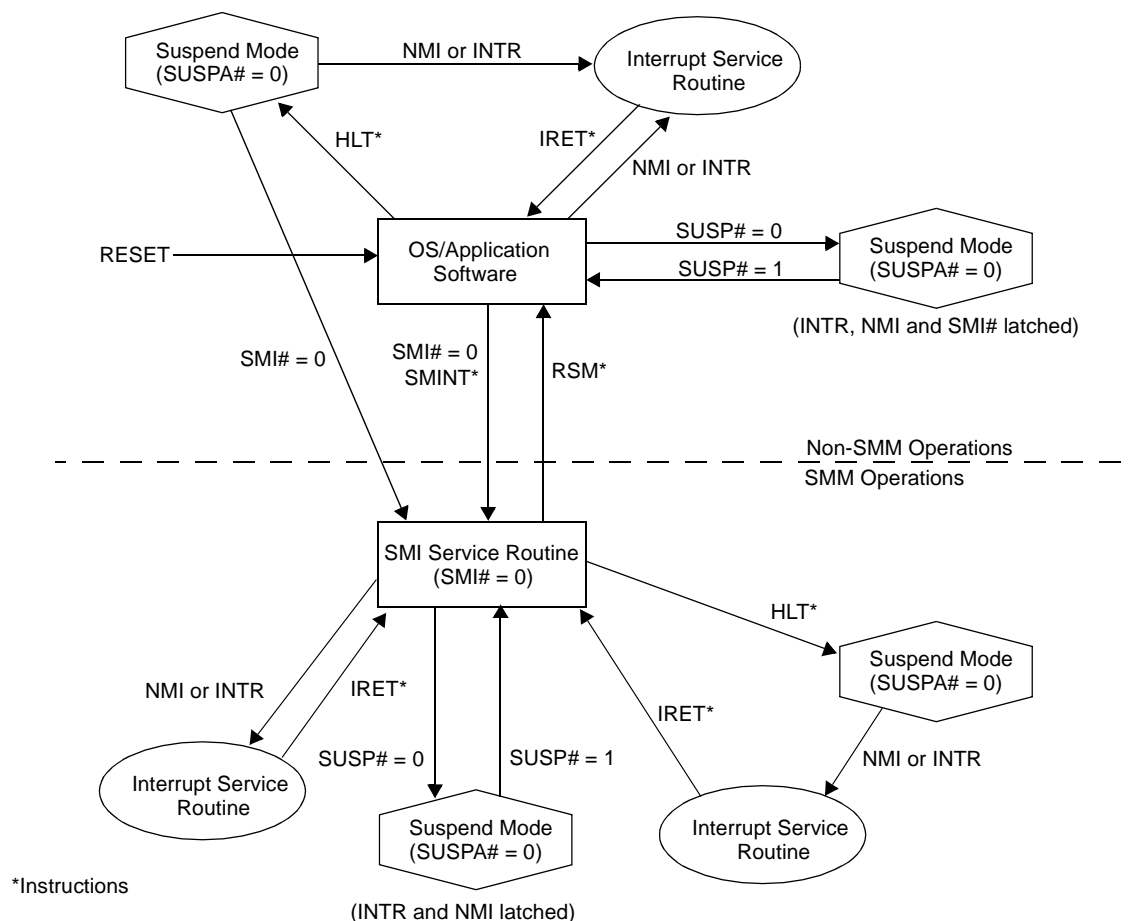

Figure 3-12. SMM and Suspend Mode State Diagram
The state diagram shown in Figure 3-12 illustrates the various CPU states associated with SMM and Suspend mode. While in the SMI service routine, the GXm processor core can enter Suspend mode either by (1) executing a halt (HLT) instruction or (2) by asserting the SUSP# input.